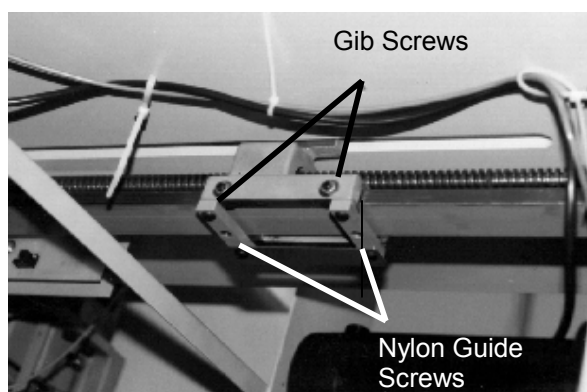

Figure 11
4. Loosen the two side gib screws and the bottom nylon guide screws (Figure 11, next page).